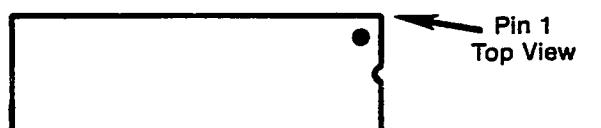

Figure 3.2
1. Transfer the 40 pin IC from location U430 on the Zenith logic board to location U27 near the top center of the GP-19 logic board. U430 on the Zenith logic board is positioned approximately 4 inches from the top of the logic board and just to the right of center. Make sure the IC is inserted with pin 1 toward the right side of the GP-19 logic board. Note: The serial number appears on the "left" side of the GP-19 logic board, and the metal heatsink is located on the "top" of the board. Pin 1 of the IC is identified in Figure 3.2.
Recheck to make sure the ICs transferred to the GP-19 logic board have pin 1 correctly positioned. (See Figure 3.2.) Pin 1 should be on the right end of the IC as viewed from the component side of the GP-19 logic board. The writing on the ICs should appear upside-down.
Check that the ICs transferred to the GP-19 logic board are inserted correctly with all pins in the sockets. Make sure that pin 1 is correctly positioned (see Figure 3.1 or Figure 3.2). Sometimes a pin will bend up underneath the IC. This can be very difficult to detect except by removing the IC from its socket. If this occurs, straighten the bent pin and re-insert the IC into the socket.